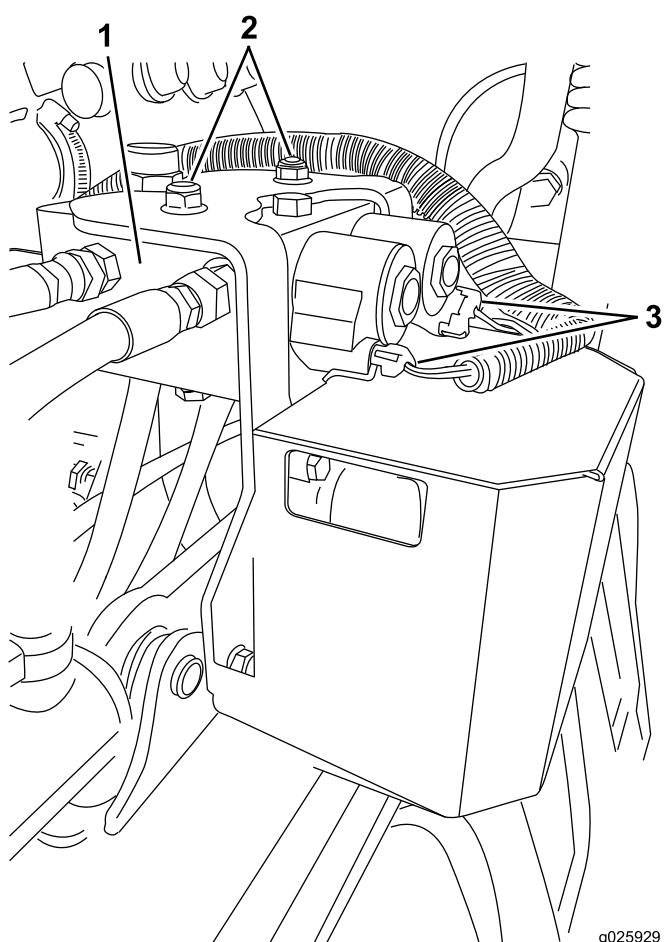

Figure 17
- Route the wiring harness to the hydraulic manifold (Figure 17).